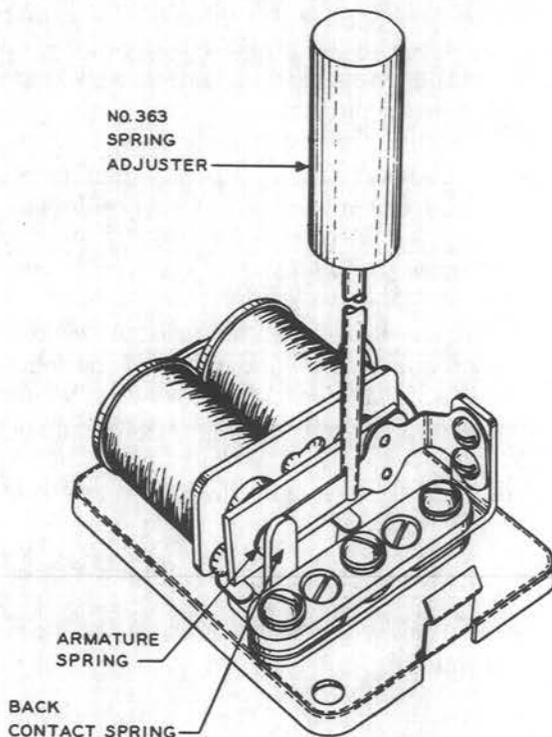

Fig. 4—Method of Adjusting Armature Spring for Follow
(5) If, with the bell or buzzer operating on direct current, the tension or follow of the armature spring is such that the contact does not open when the armature is against the pole faces, adjust the armature spring as required, by applying the 363 spring adjuster close to the base of the spring as shown in Fig. 4 and giving the adjuster a slight twist in a direction that will decrease the pressure of the spring against the back contact. Take care not to kink the spring in making this adjustment.
the base of the spring as shown in Fig. 4. Give the adjuster a slight twist in a direction which will decrease the pressure of the spring against the back contact spring. Take care not to kink the spring in making this adjustment.